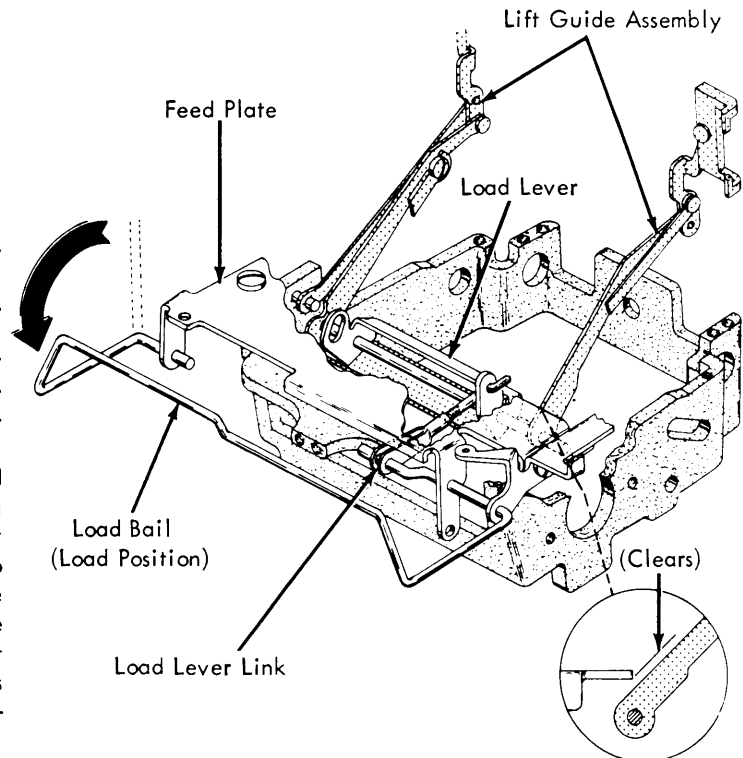

FIGURE 198. Load Lever Link
1. Load Lever Link - The load lever link should be adjusted to raise the ribbon lift guide assembly as high as possible without binding off on either the feed plate or the take-up spool when the load bail is in the load position (Fig. 198).